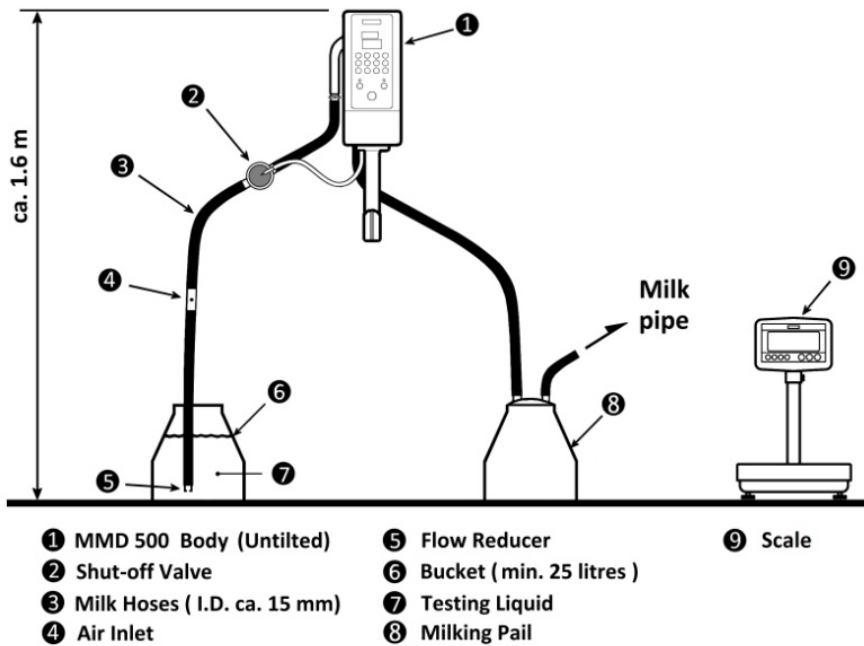
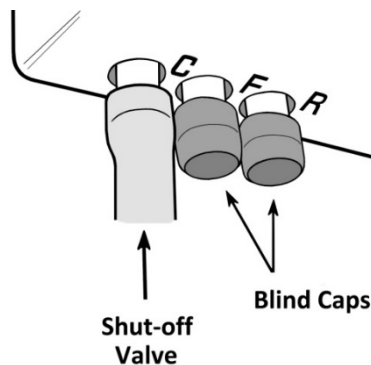

Fig. 1. Water test.
Fig. 2. Positions of blind caps (Ports "F" and "R" of triple tube connection on the bottom of MMD500 body).
Required equipment (ref. Fig. 1 & Fig. 2)
- Milk hoses with a 15-16 mm internal diameter (refer the Fig.1).
4. Prepare for the test as figure 1.